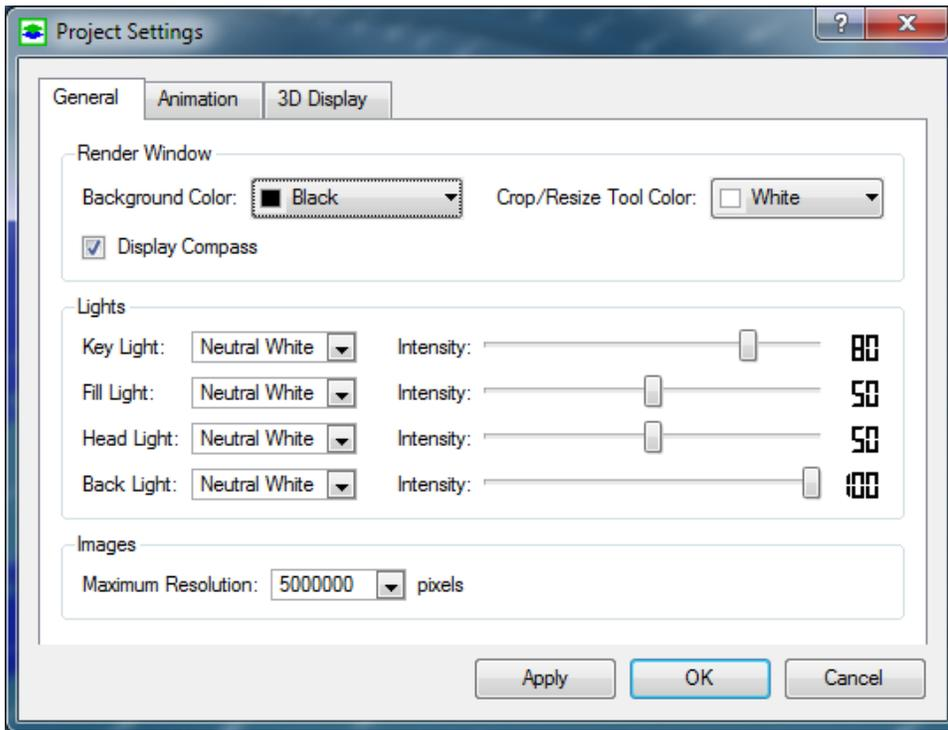

Figure 1.6. The General tab of the Project Settings dialog box
- *General Tab*: As shown in Figure 1.6, the General tab contains settings of the render window (i.e., the viewport), lights, and the maximum resolution of a loaded image in terms of total number of pixels. Images larger than the given maximum resolution will be resampled to fit the limit before loading into the 3D scene. The original image files remain unmodified.
2. In the *Open File* dialog box, select an aerial photo or raster map file, then click OK to import the file. Seer3D supports the png, jpg, bmp, tif, and tiff formats. Raster maps usually consumes a lot of memory, as each point on the map must be represented with a pixel and the color. Therefore, when a map is loaded Seer3D automatically re-samples the map if it exceeds the maximum number of pixels defined in the Project Settings dialog box (Figure 1.6).